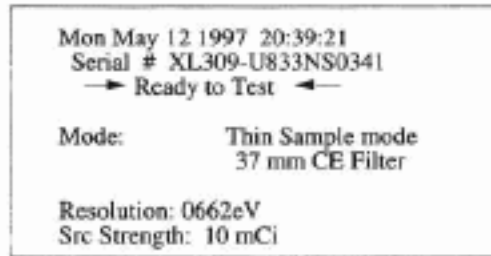

Fig. 2.16 Ready to Test
5. The instrument will initiate self-calibration. This takes one to two minutes. When calibration is complete, the instrument will **beep** and display the **Ready to Test** screen for the thin sample mode you have selected (**Figure 2.16**).